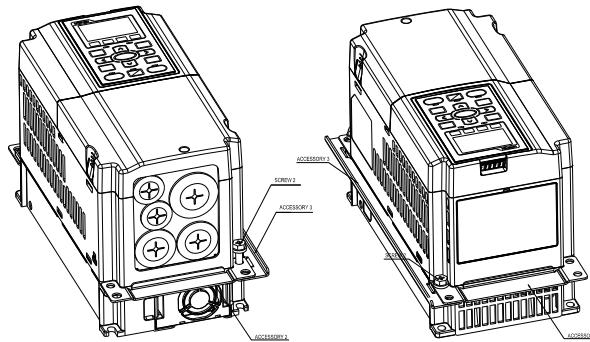

Figure 2
2. Install accessory 2&3 by fastening 2 of the screw 2 (M6) (figure 2). Screw torque: 25–30 kg-cm / [21.7–26 lb-in.] / [2.5–2.9 Nm]